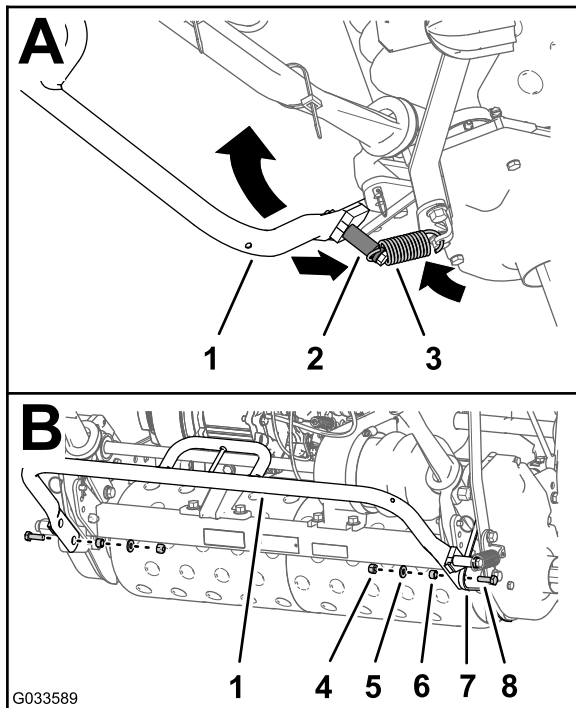

Figure 8
12. Seat the free end of the spring onto the spring post of the kickstand (A of Figure 8).
13. Attach the kickstand to the side plates with the locknuts, washers, spacers, and screws (5/16 x 1 inch) that you retained in step 1 (B of Figure 8).